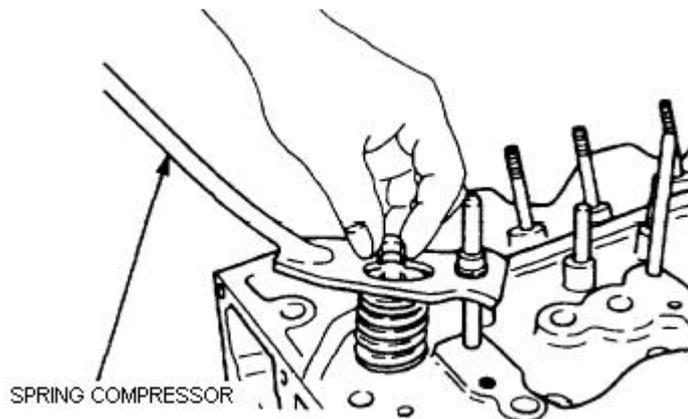

Figure 12 Installing the Valves
- dd. Install a valve spring retainer over the valve springs, then install a spring compressor (Table 3, Serial 65) and compress the valve springs. Install the two collets, ensuring that they are properly positioned and are correctly seated on the valve stem (Figure 12), then release the spring compressor. Repeat this procedure for each valve and spring assembly.